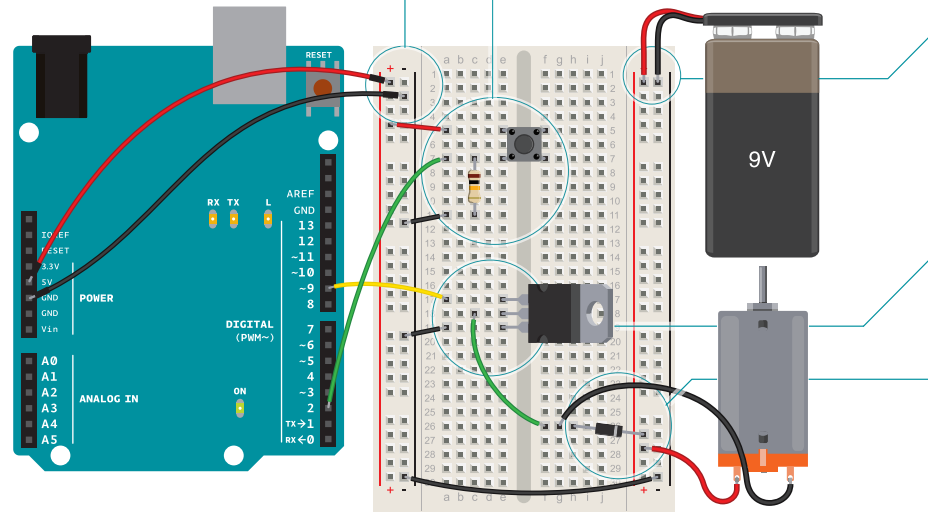

Fig. 1
-  3 When using circuits with different voltages, you have to connect their grounds together to provide a common ground. Plug the 9V battery snap into your breadboard. Connect ground from the battery to ground of your Arduino on the breadboard with a jumper, as shown in Fig. 1. Then attach the motor's free lead to the 9V power.
-  5 Next, connect the motor's voltage supply to the motor and breadboard. The last component to be added is the diode. The diode is a polarized component, it can go only one way in the circuit. Notice that the diode has a stripe on one end. That end is the negative end, or cathode, of the diode. The other end is the positive end, or anode. Connect the anode of the diode to the ground of the motor and the cathode of the diode to the power of the motor. See Fig. 1. This may seem backwards, and in fact, it is. The diode will help prevent any back-voltage generated by the motor from going back into your circuit. Remember, back voltage will flow in the opposite direction of the voltage that you supply.